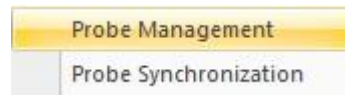

Fig. 11-1
Select “probe system management” in Fig.11-1, and below window will popup:
- 5 Select “probe synchronization” order in Fig 11-1, and below window will popup.